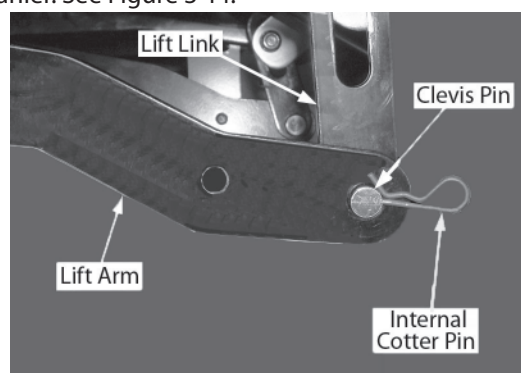

Figure 3-14
- From underneath each side of the tractor, just forward of the tractor's front wheels, locate and cut the tie holding the lift link upward on each side of the tractor. Refer to Figure 3-14.
- Remove the internal cotter pin and withdraw the clevis pin from the rear of the lift arm on each side of the deck frame. Refer to Figure 3-14.
- To avoid possible damage to the deck frame lift arms when driving the tractor off of the pallet, connect the lift arms to the lift links on both sides of the tractor using the clevis pins and internal cotter pins removed earlier. See Figure 3-14.
- Remove the internal cotter pins and clevis pins to disconnect the lift arms and lift links on each side of the tractor. Refer to Figure 3-14. Hold the internal cotter pins and clevis pins for assembly of the deck.